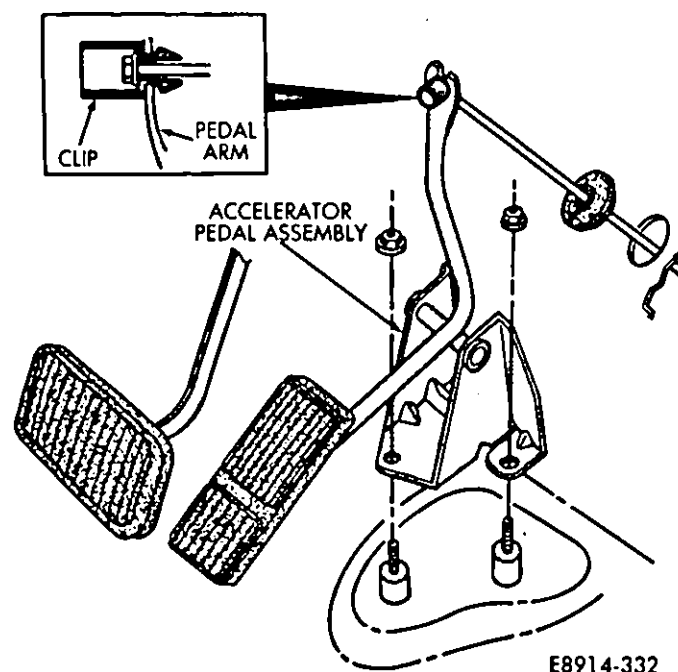
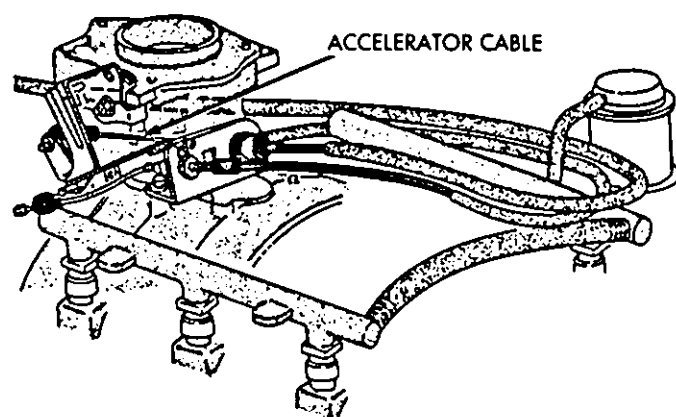

Fig. 1—Accelerator Pedal Removal/Installation
Fig. 2—Accelerator Cable Removal/Installation—3.0L Engine
(1) The clip connecting the accelerator cable and pedal has tabs on the backside. Compress the tabs and pull clip forward. Gently slide accelerator cable out of opening in top of pedal arm taking care not to damage or kink throttle core wire.
(2) Remove accelerator pedal mounting nuts. Remove accelerator pedal (Fig. 1).
(1) Place accelerator pedal over studs protruding from floorpan (Fig. 1). Tighten mounting nuts to 4.3 N·m (36 in-lbs) torque.
(2) Slide accelerator cable into opening in top of pedal arm. Push cable clip into pedal arm opening until it snaps in place (Fig. 1).
(1) The clip connecting the accelerator cable and pedal has tabs on the backside. Compress the tabs and pull clip forward. Gently slide accelerator cable out of opening in top of pedal arm taking care not to damage or kink cable core wire (Fig. 1).
(2) The accelerator cable is anchored to dash panel by retainer tabs built into the cable sheathing. The tabs are located behind the accelerator pedal arm. From inside the drivers compartment, compress the retainer tabs and push cable through dash panel.
(3) At the throttle body, use a straight blade screwdriver to disconnect the accelerator cable clasp from throttle lever (Fig. 2).
(4) Remove accelerator cable from throttle bracket by compressing retainer tabs and gently pushing cable through hole in bracket (Fig. 2). Remove accelerator cable.
(1) Slide clasp end of accelerator cable through hole in throttle bracket until retainer tabs lock into bracket (Fig. 2).
(2) Connect cable clasp to ball stud on throttle lever (Fig. 2).
(3) Push other end of cable through opening in
dash panel until retaining tabs lock onto panel (Fig. 2).
(4) From inside drivers compartment, slide accelerator cable into opening on top of pedal arm. Push cable clip into pedal arm opening until it snaps into place (Fig. 1).